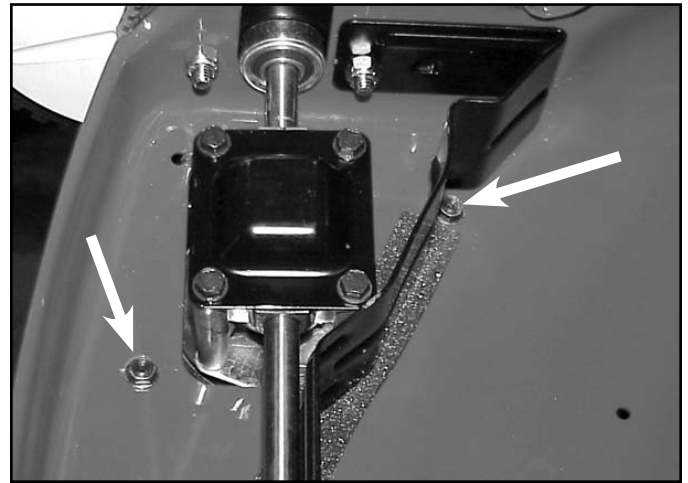

Fig 057
2. Remove the two screws securing the belt cover from under the housing (Fig. 057).